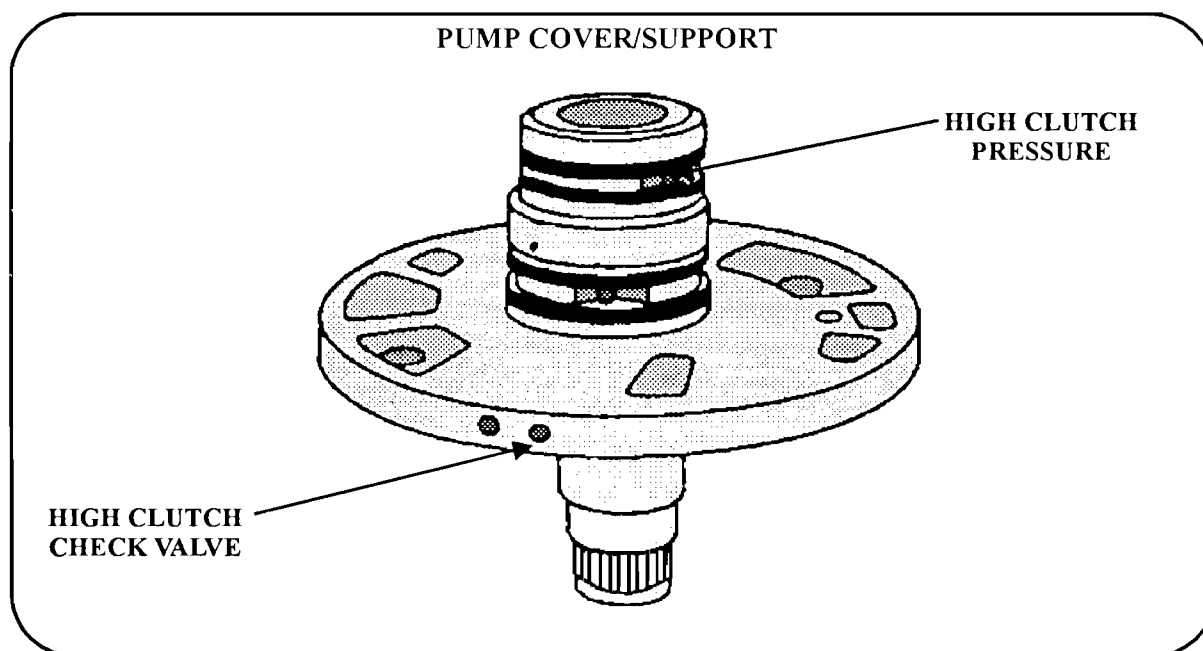

Figure 49
**CAUSE:** Premature failure of the high gear clutch may be caused by a leaking high clutch check valve, which is located in the pump cover /support. (See figure 49)